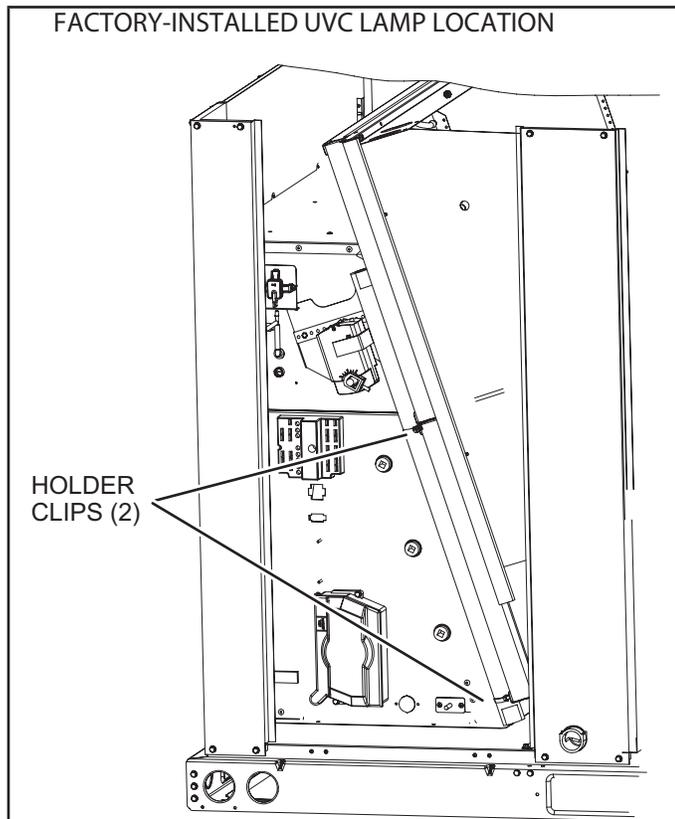

FIGURE 36
- 1 - Cut wire ties and remove the UVC lamp attached to the filter rack. See FIGURE 36.